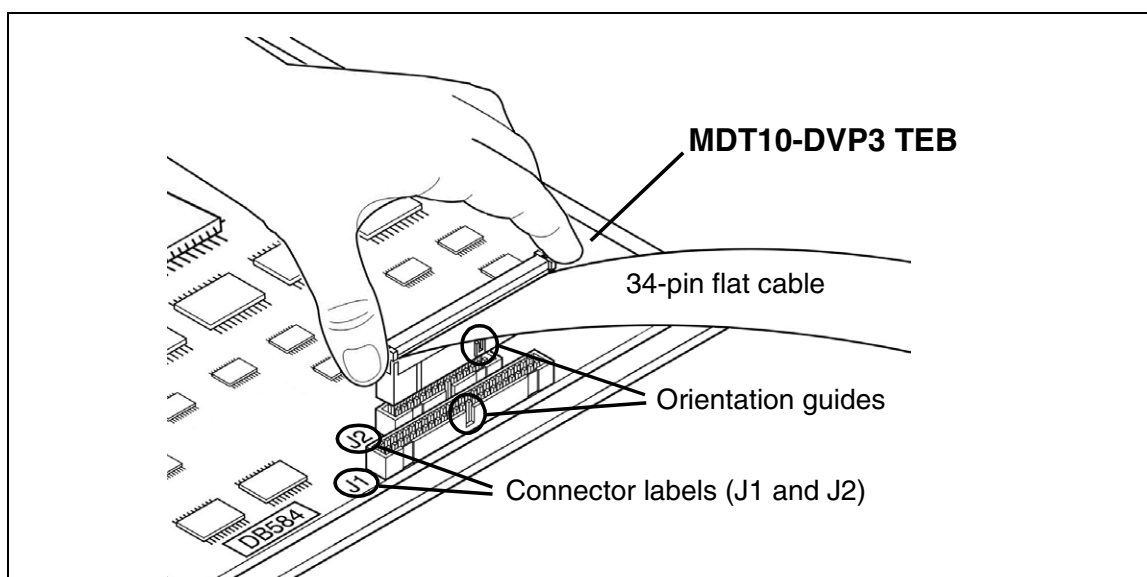

Figure 4: Connecting the 34-pin flat cable to the TEB
- 3 Connect the 34-pin flat cable to the J1 connector on the ST7MDT10-DVP3 TEB, making certain to align the orientation guides as shown in Figure 4. The J2 connector on your TEB is not used in this configuration.
- 3 Connect the 34-pin flat cable to the J1 connector on the ST7MDT10-DVP3 TEB, making certain to align the orientation guides as shown in Figure 4. Then connect the 26-pin flat cable to the J2 connector, in the same manner.